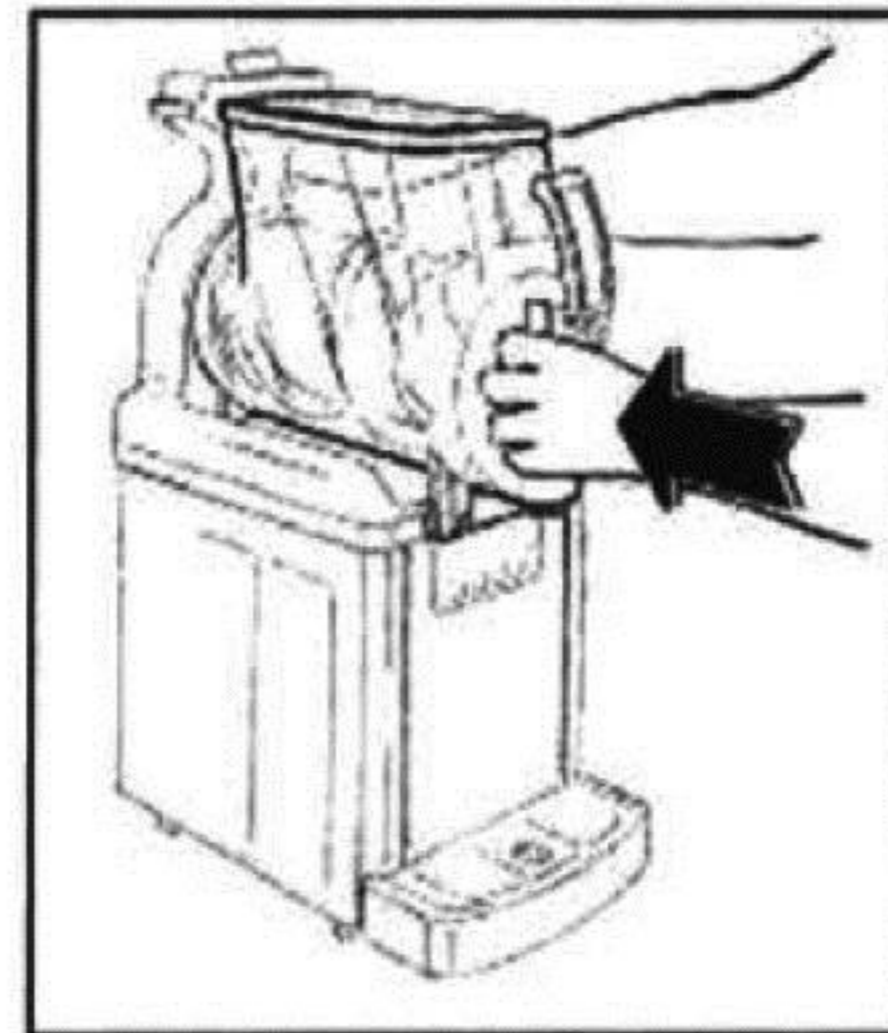

fig.38
- Reassemble the bowl by positioning it back into its seat, verifying that it faces in the correct direction and it is held in place by its seal (see fig.38).